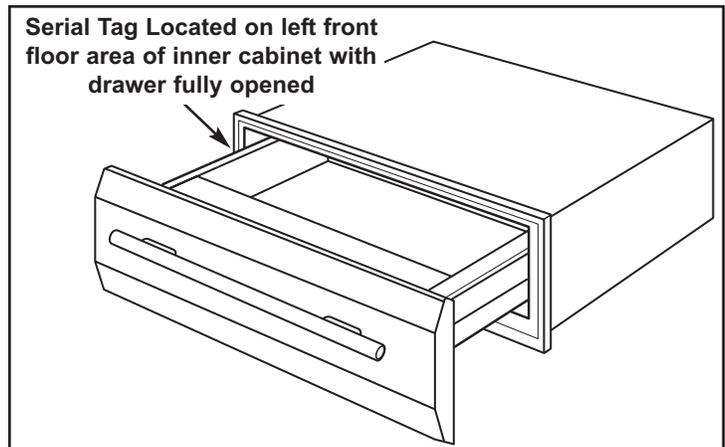
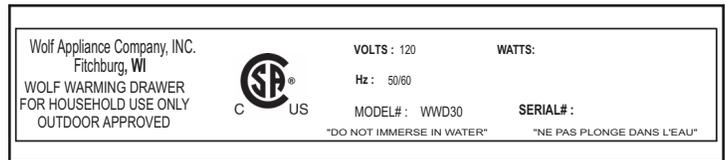

Figure 1-1. Serial tag location
Figure 1-2. Serial tag
- See Figure 1-1 serial tag location and Figure 1-2 serial tag layout.